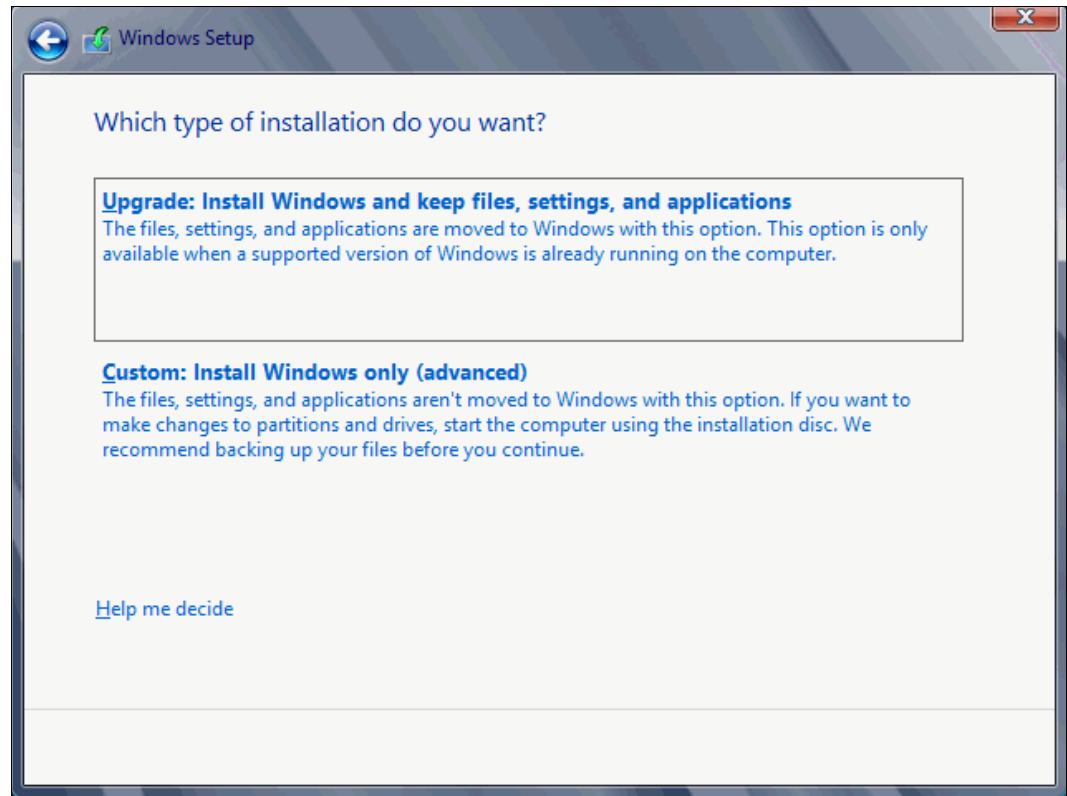

Figure 9-63 Selecting to install a clean copy of Windows
6. For the type of installation (Figure 9-63), select **Custom (advanced)** to install a clean copy of Windows. Then click **Next**.